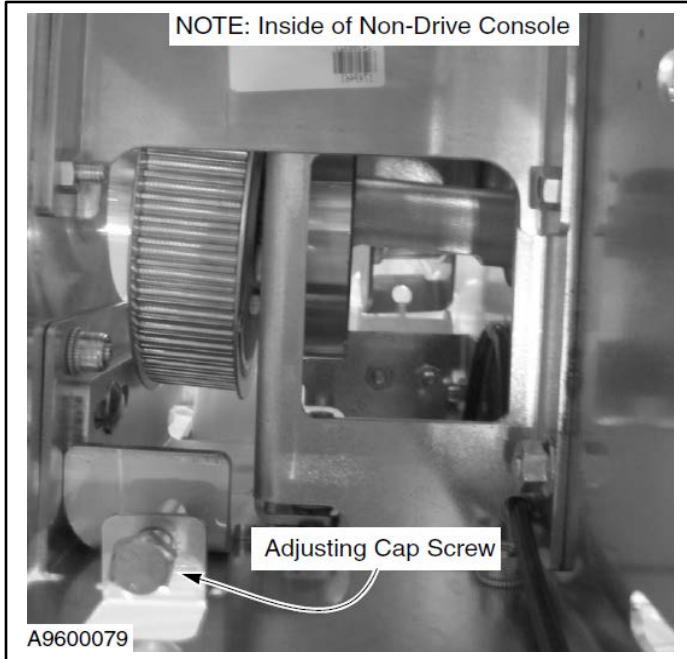

Figure 44
4. Turn cap screws to adjust guide pulley trolley. (See Figure 44.)